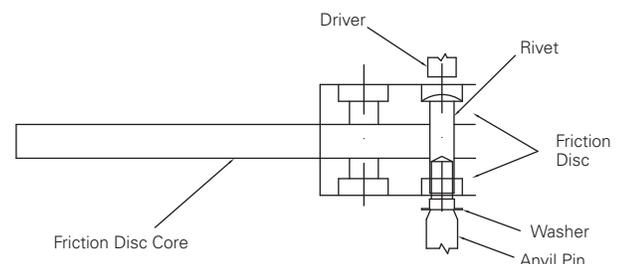
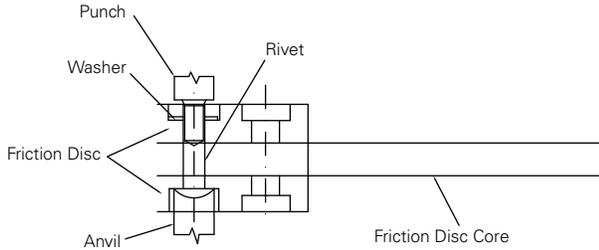

Figure 12
Figure 13
- 4.4.5 Insert a rivet through any hole and set using a washer on the clinched end of the rivet. Figure 12 illustrates machine setting and Figure 13 illustrates setting the rivet manually. When setting manually, use an arbor press and keep the setting tool square to avoid splitting the rivet.